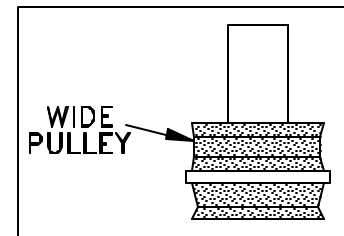
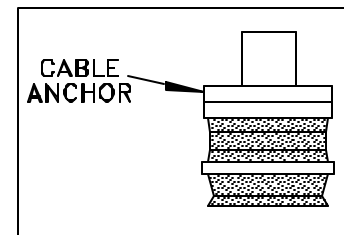

Figure 14
Figure 15
- Set the wide pulley on top of the pulley divider. It is symmetrical so it can be put on either way. (Figure 14) Set the cable anchor on top of the wide pulley with the groove facing you and the notch out of the corner to your right. (Figure 15)